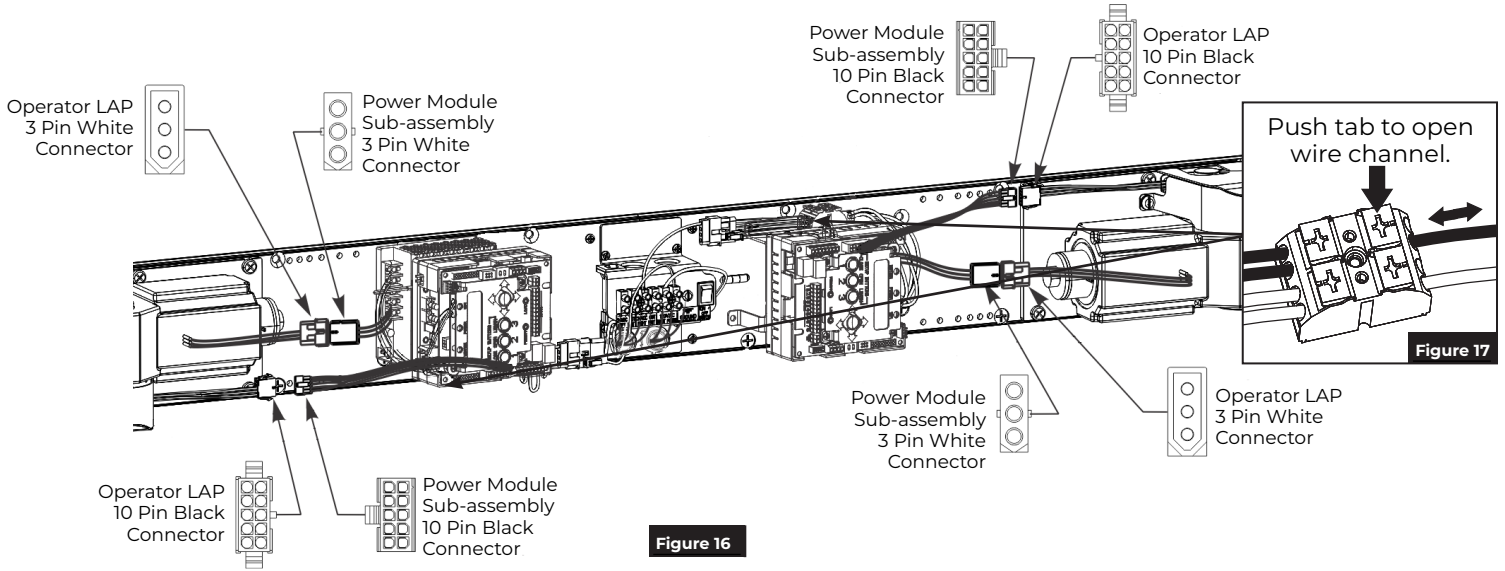

Figure 16
1. Attach 10-pin black connectors between each power module sub-assembly and its operator LAPS. (Figure 16)
2. Attach 3-pin white connectors between each power module sub-assembly and its operator LAPS. (Figure 16)v